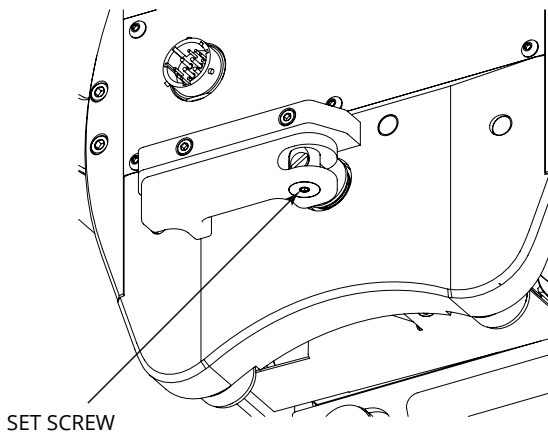

FIGURE 12 - Latch Set Screw
2. Next, loosen the set screw on the bottom of the latch assembly – see **Figure 12 - Latch Set Screw**.